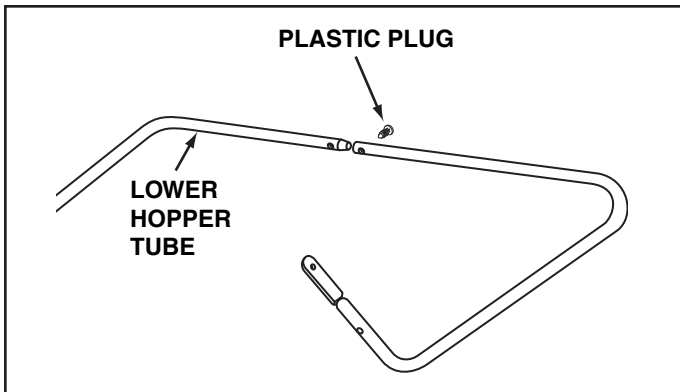

FIGURE 11
- Assemble the two lower hopper tube together using a plastic plug. See figure 11.